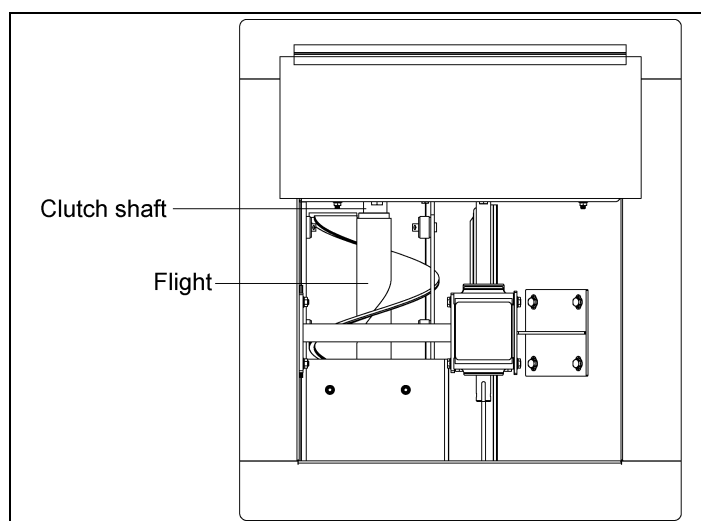

Figure 4X
3. When the flight is approaching the center well shaft, it will be necessary to rotate the flight counterclockwise in order to get it to seat properly on the squared clutch shaft. When the flight is properly seated, the flight should be entirely inside the unload tube. It may be necessary to pull the flight out, a small amount and attempt this step multiple times in order to seat the flight properly. (See Figure 4X.)
4. On the initial stage, install with an empty bin, the installer might want to open the center well and enter the bin to check and see that the flight is seated. Once they have seen that it has seated, they will know the proper position of the flight on the discharge end when it has seated properly. (See Figure 4X.)